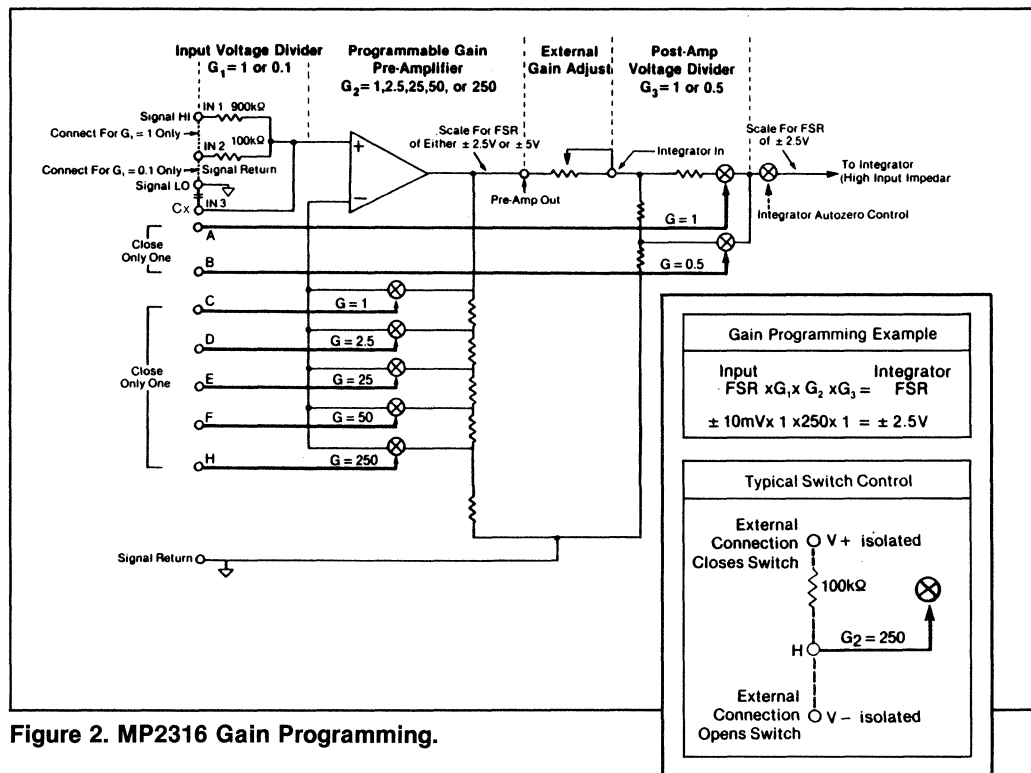

Figure 2. MP2316 Gain Programming.
The three gain stages shown in Figure 2 allow selecting any of the 13 gains from 0.05 to 250 inclusive, providing full scale ranges from ± 50 V to ± 10 mV. The external potentiometer connections shown allow fine adjustment of any selected range. For example, a 1 k Ω pot provides a $\pm 4.5\%$ adjustment, more than adequate for obtaining either a ± 1.00 V FSR or a ± 1.024 V FSR with one basic gain selection.
Each of the gain stages may be externally configured using either switches, relays, opto-isolators, or by any other convenient means available in the host system. The module's own floating output voltages may be used for controlling the **MP2316's** internal solid-state switches, A through H, per the inset of Figure 2.
3. Input Gain; see Figure 2 and Input Connections.
The Specifications call out a maximum continuous input without damage of 264 Vac rms. This assumes a value for C_x of $1.5 \mu\text{F}$ connected between the IN3 and SIGNAL LO pins as shown in Figure 2. Failure to use this capacitor will result in damage to the unit under the specified input conditions. It should be noted that this capacitor will